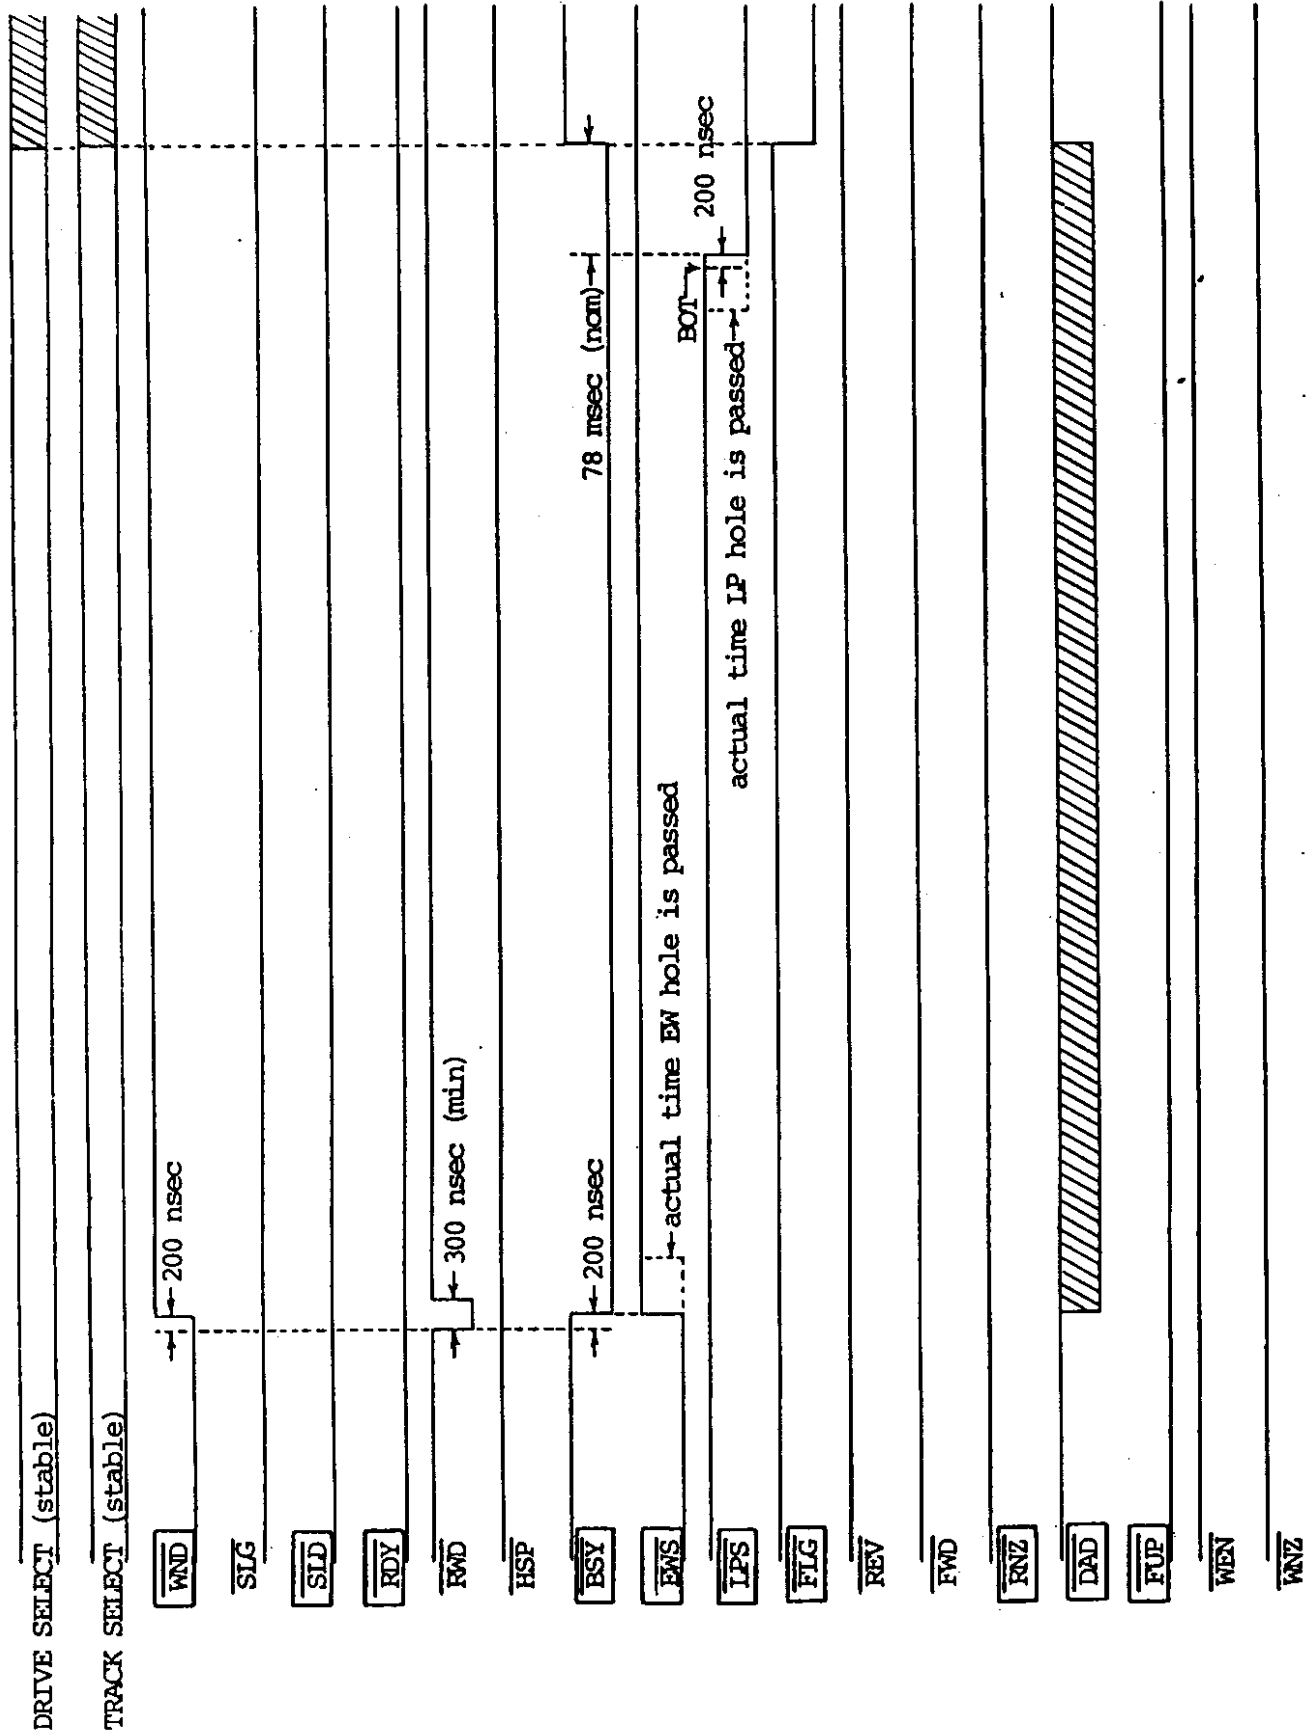

Figure 5.5, Rewind From EWS
- (1) The motion command may be either FWD or REV, with the other held false through the entire operation.
- (2) The track lines must be stable for the duration of the operation.
- (3) WND goes false as soon as the motion command is asserted (with HSP true).
- (4) DAD should be ignored for the first 20 milliseconds after the motion command. The controller may count DADs during the deceleration to enable the drive to place the tape in the correct interrecord gap (not shown).
5.3.4 AUTOMATIC REWIND SEQUENCE. The Automatic Rewind Sequence (see figure 5.5) is shown beginning past the EW tape hole following a write operation (WND true). Items to note are: